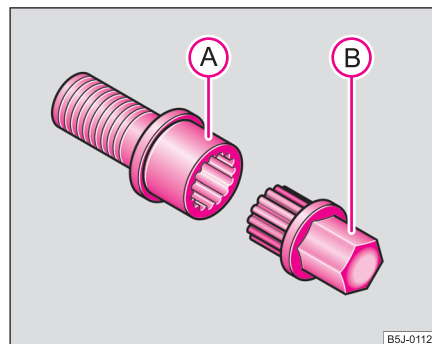

Fig. 161 Safety wheel bolt with adapter
- Insert the adapter (B) with its toothed side fully into the inner toothing of the safety wheel bolt (A) right down in such a way that only the outer hexagon is jutting out ⇒ fig. 161.
- Insert the wheel wrench fully onto the adapter (B).